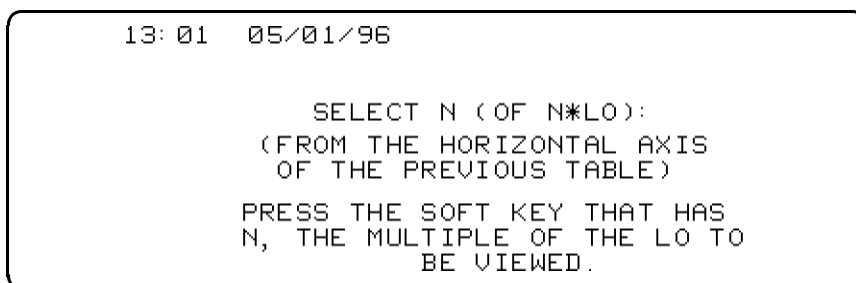
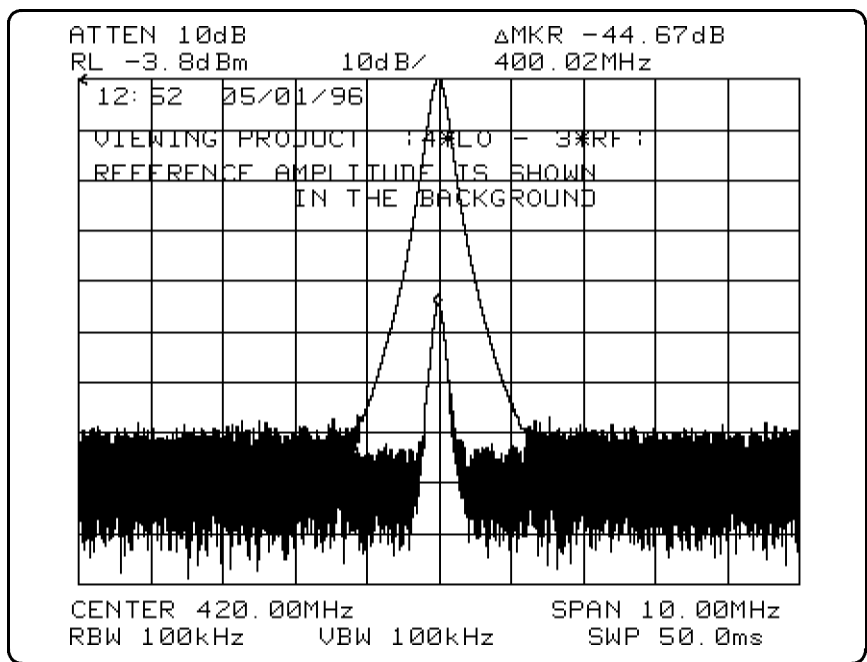

Figure 2-23. Selecting A Mixing Product to View
Figure 2-24. Viewing a Product
- Press **VIEW PRODUCT** and select the softkeys that identify a measured mixing product using N and M values to view a product in real-time spectrum analyzer mode. Figure 2-23 shows the N value selection screen, and an example of a viewed product is shown in Figure 2-24.